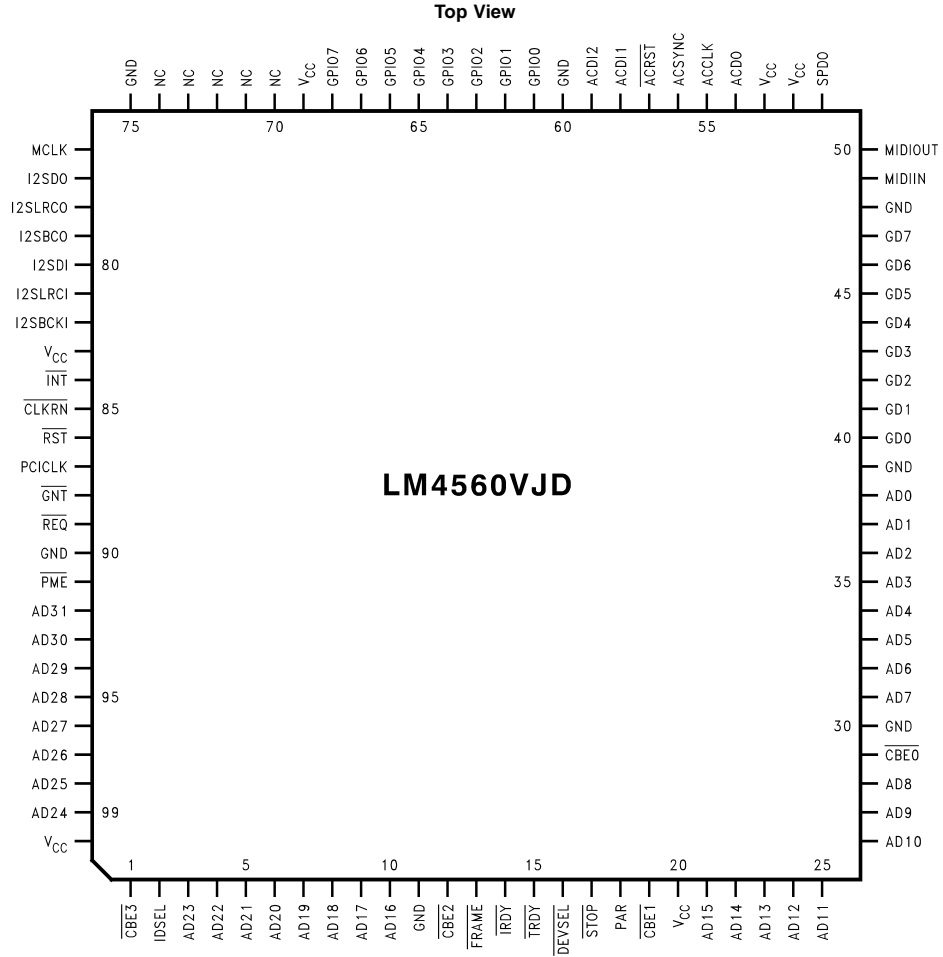

FIGURE 1. 100-Pin TQFP Package
- Figure 1. 100-Pin TQFP Package